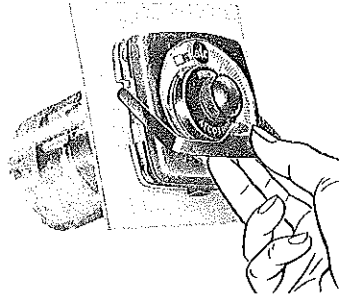

Fig. 2
- Fig. 2 Lift bail handle with an upward motion to partially jack the timer free from its plug-in housing.